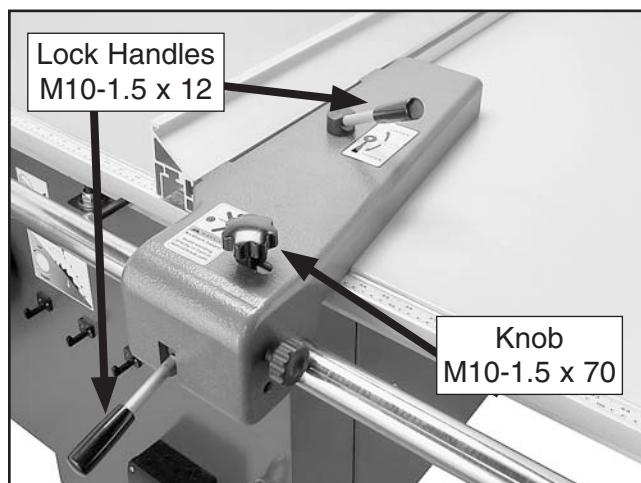

Figure 30. Rip fence handles.
13. Slide the rip fence body onto the round rail. Thread the lock handles M10-1.5 x 12 and knob M10-1.5 x 70 into the rip fence body, where shown in **Figure 30**.